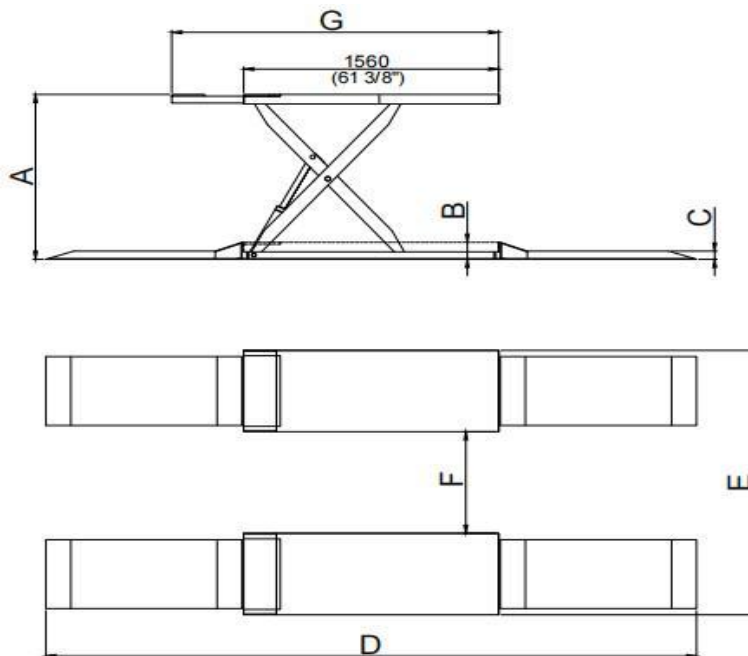

Fig.2
I. PRODUCT FEATURES AND SPECIFICATIONS (See Fig.2)